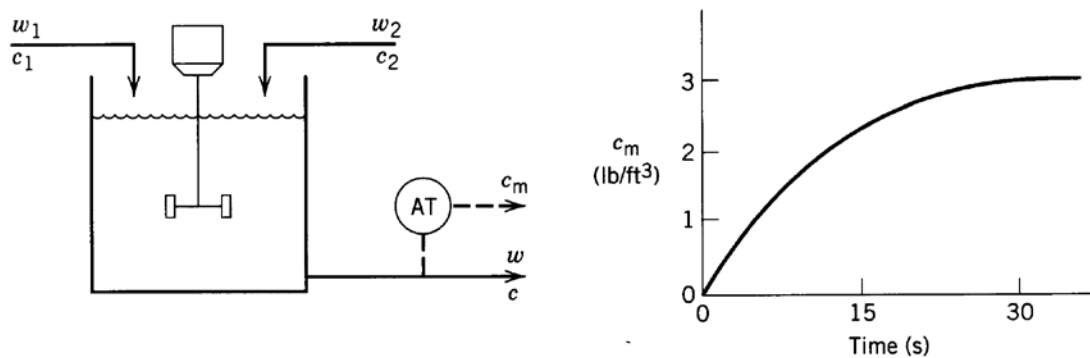

Figure Q.2.[a]: Mixing Tank
2. [a] The caustic concentration of the mixing tank shown in Figure Q.2.[a] is measured using a conductivity cell. The total volume of solution in the tank is constant at  $7 \text{ ft}^3$  and the density ( $\rho = 70 \text{ lb/ft}^3$ ) can be considered to be independent of concentration. Let  $c_m$  denote the caustic concentration measured by the conductivity cell. The dynamic response of the conductivity cell to a step change (at  $t = 0$ ) of  $3 \text{ lb/ft}^3$  in the actual concentration (passing through the cell) is also shown in Figure Q.2.[a].